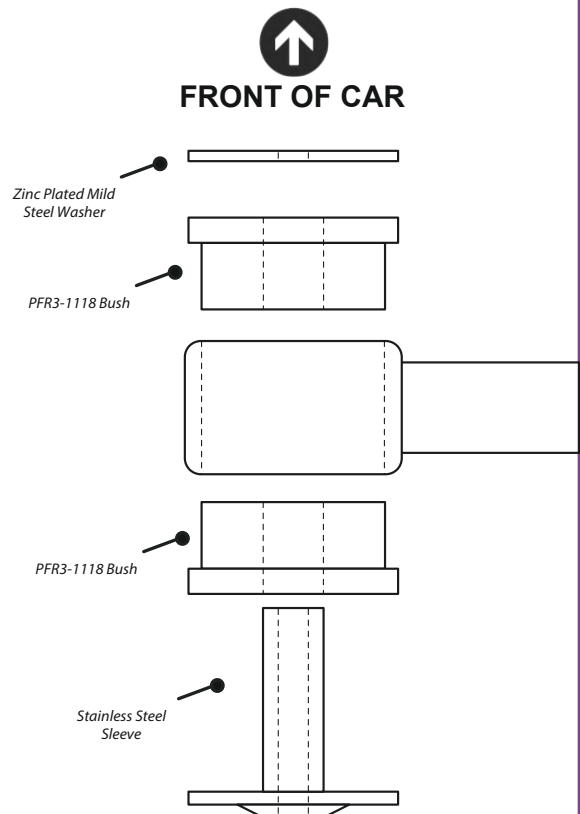

Figure 1
- Note: Please refer to Figure 1 for orientation of the sleeve. The wide end must be facing the rear of the car.**